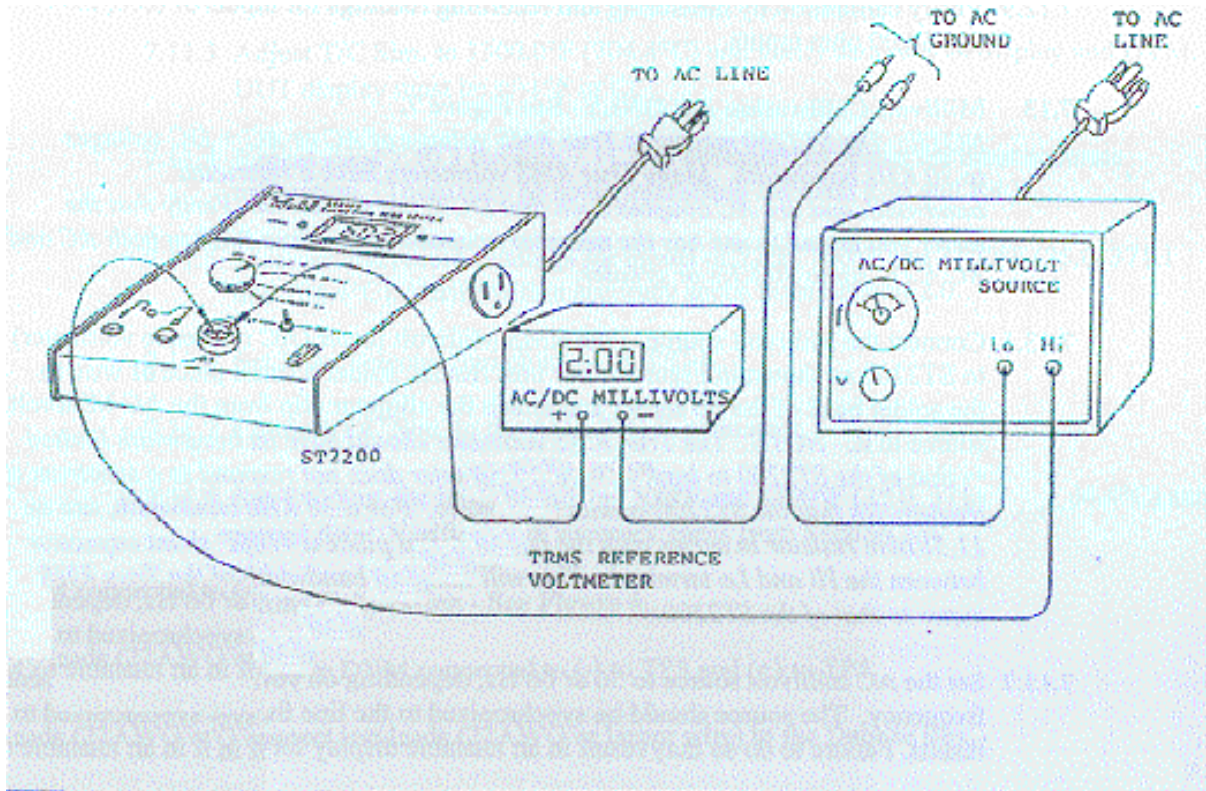

Figure 7. Millivolts Calibration
## 7.13 Millivolt Calibration AC ONLY- See Figure 7.
- 7.13.1** Connect the Millivolt source, True RMS Millivolt meter (AC reference voltmeter) to ST2200 as shown in Figure 7. For best results, solder a small piece of wire to the solder bead of the tip sensor and attach the alligator clip from the AC Millivolt source to it.
**7.14.1** Connect a DC Millivolt source, True RMS Millivolt meter (AC reference voltmeter) to ST2200 as shown in Figure 7. For best results, solder a small piece of wire to the solder bead of the tip sensor and attach the alligator clip from the DC Millivolt source to it.